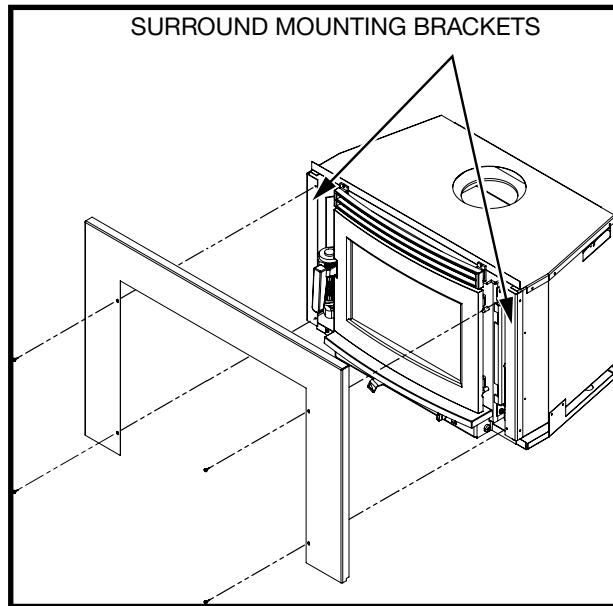

Figure 7: Backing Plate mounting brackets.
1. Attach the Backing Plate to the mounting brackets on the unit with the four screws provided (Figure 7).